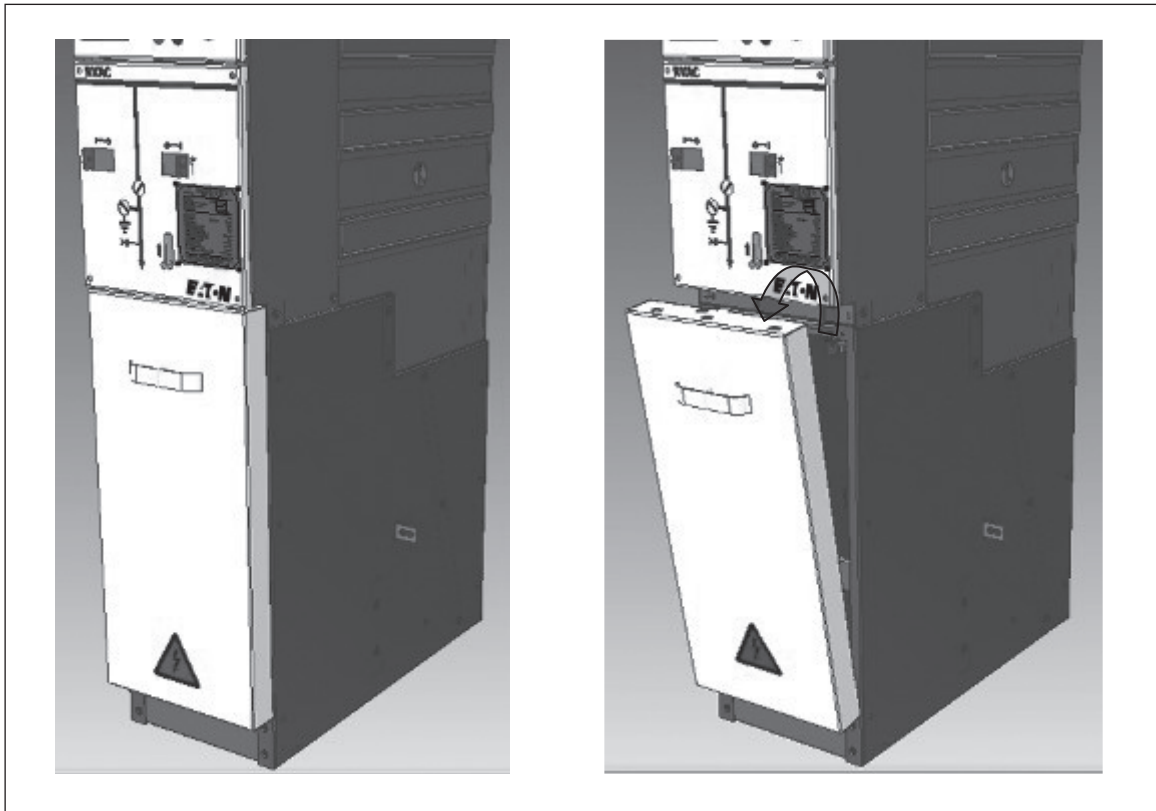

Figure 14.3 Removal of the cable compartment door
- Remove the cable compartment door, and open the cable compartment (see **Figure 14.3**);